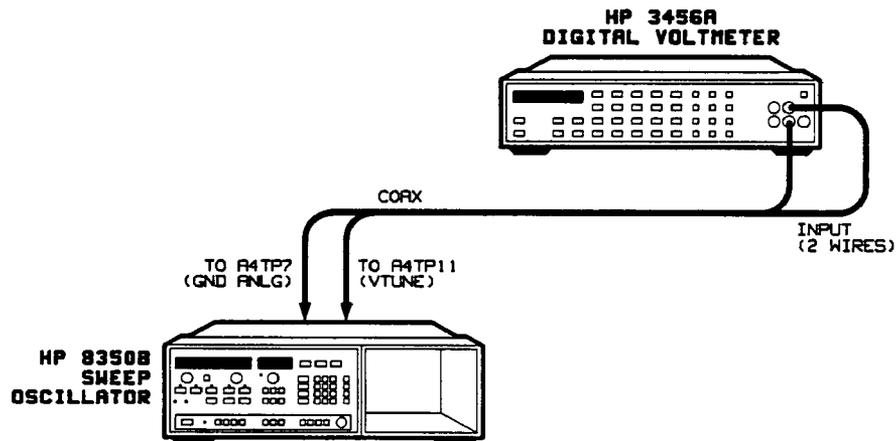

Figure 5-14. Frequency Control Adjustments Setup
2. Position the sweep oscillator upright, as shown in Figure 5-14, and remove the top cover.